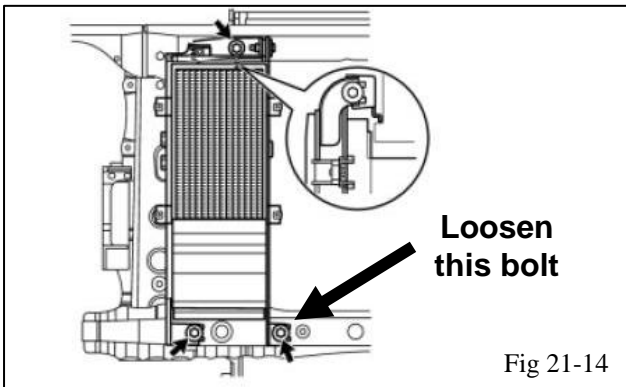

Fig 21-14
- (m) There are 3 bolts that secure the transmission oil cooler (Fig 21-14). Loosen the lower bolt closest to the vehicle center line.